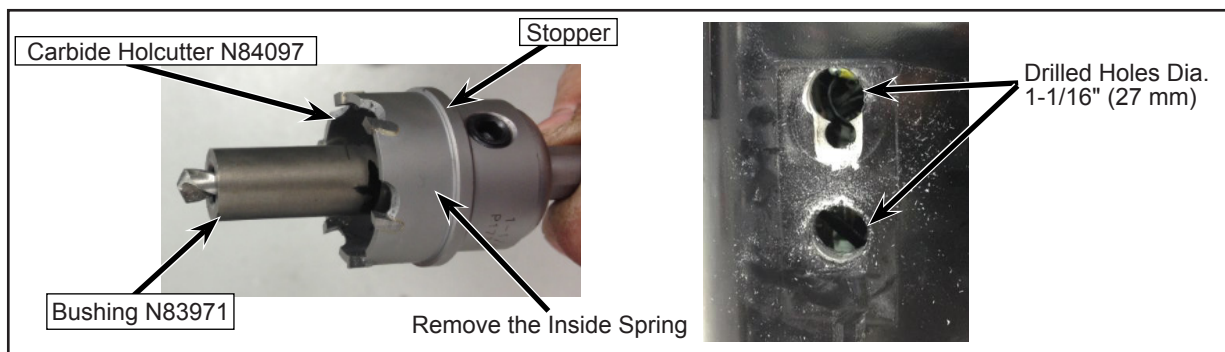

Figure 7 - View of Holes using Jig Tool Kit
- 1.8. Drill holes using jig tool N84097 from the exterior through the fiberglass and the metal plate (see Figure 7).